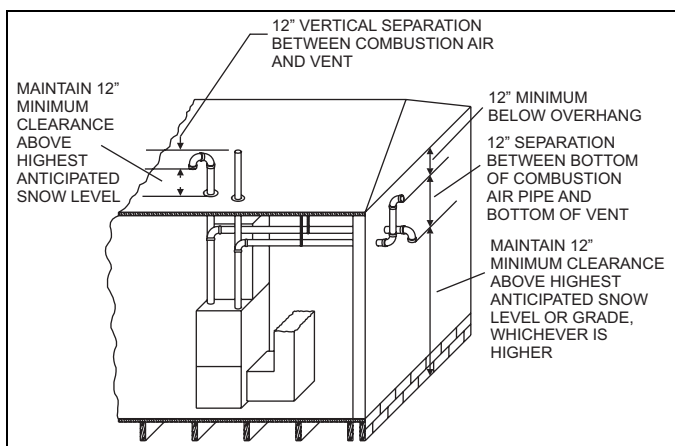
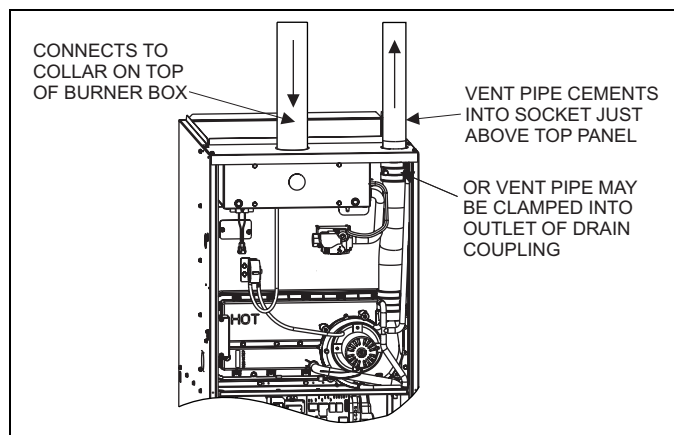

FIGURE 15: Termination Configuration - 2 Pipe
FIGURE 19: Sealed Combustion Air Intake Connection and Vent Connection
7. Sealed combustion air systems must be installed so the vent and the combustion air pipes terminate in the same atmospheric zone. Refer to Figures 15 or 16.
6. Sealed combustion air systems must be installed so the vent and the combustion air pipes terminate in the same atmospheric zone. Refer to Figures 15 or 16.
The combustion airside of the two-pipe configuration shown in Figure 19 can be installed so the combustion air pipe terminates as described in outdoor combustion air or ventilated combustion air sections in these instructions. Follow the instructions for outdoor combustion air or ventilated combustion air and the instructions for installing the vent system with the vent terminating as shown in Figures 15 or 16. The two-pipe system must have a separate combustion air pipe and a separate vent pipe for each furnace. Under NO circumstances can the two combustion air or vent pipes be tied together. The combustion air and vent pipes must terminate in the same atmospheric zone.
1. **OUTDOOR COMBUSTION AIR:** This is a sealed combustion air configuration where the combustion air is supplied through a PVC or ABS pipe that is connected to the PVC coupling attached to the burner box and is terminated in the same atmospheric zone as the vent. This type of installation is approved on all models. Refer to Figure 19.
This installation requires combustion air to be brought in from outdoors. This requires a properly sized pipe (Shown in Figure 19) that will bring air in from the outdoors to the furnace combustion air intake collar on the burner box. The second pipe (Shown in Figure 19) is the furnace vent pipe.